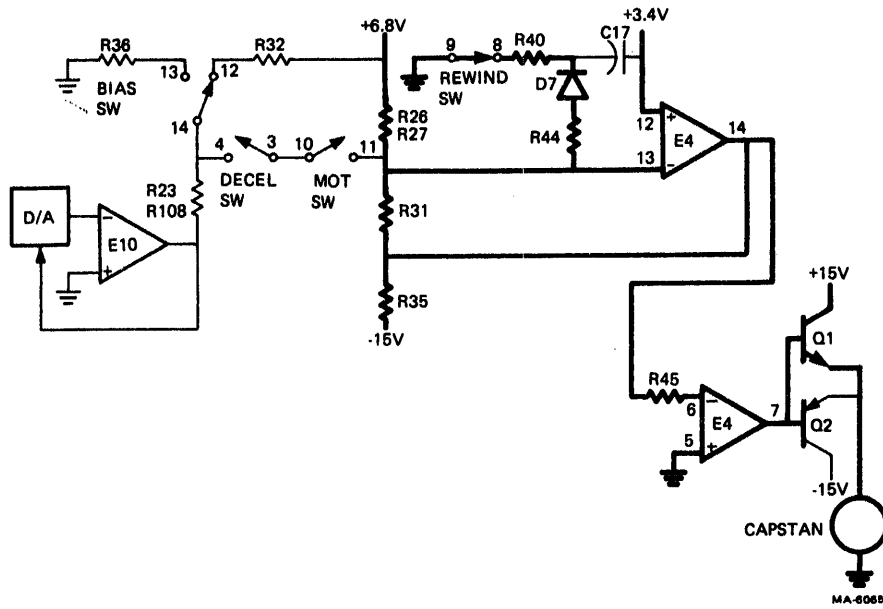

Figure 6-19 Rewind - Capstan Drive
6.5.3.3.4 Rewind (Figure 6-19) – The REWIND SW is closed by CS1 REWIND. All the other switches are deactivated. The inverting input (pin 13) to E4 is now more positive (closer to ground) than its normal operating range for reverse rotation. E4 (pin 14) is operating near the minimum positive end of its range, and the forward bias is high on Q1, low on Q2. Rewind speed is determined by component parameters. Diode D7 limits the positive swing of the inverting input to E4, thereby limiting rewind speed.